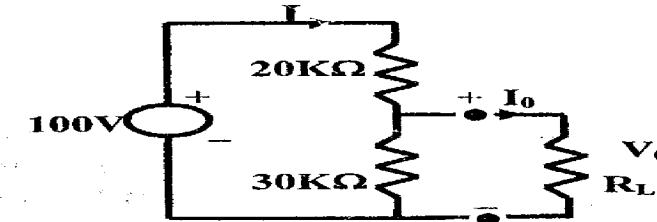

Figure 2
- 2) Consider the circuit shown in fig.2.